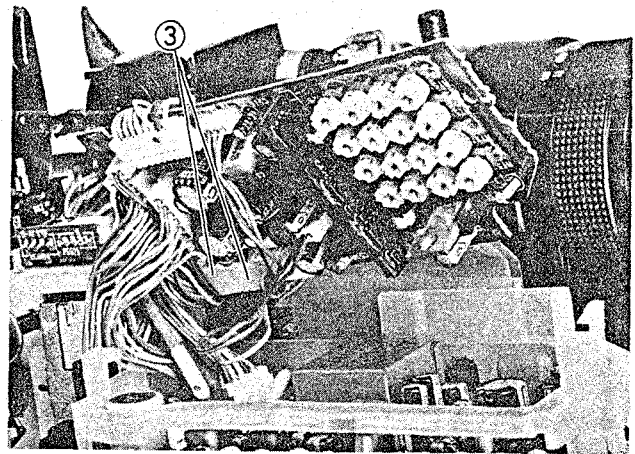

Fig. 2-124 Lens Block Removal
3. Disconnect two (2) connectors (CN1508, CN1524). (See Fig. 2-124)